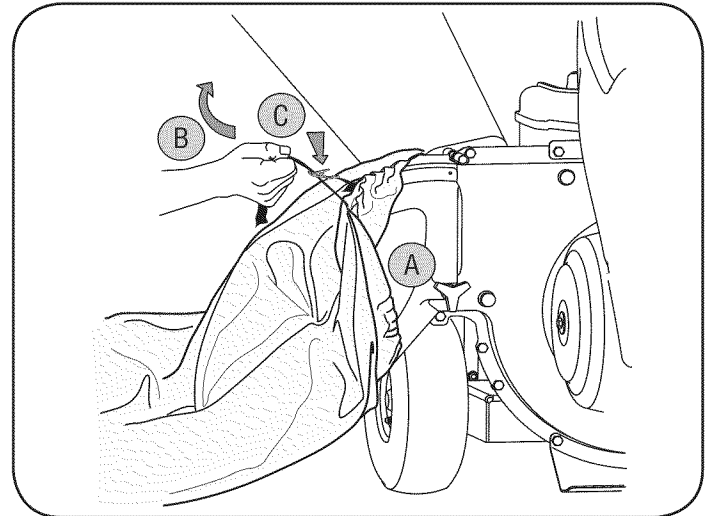

Figure 8
- C. Clip drawstring back on itself, tight against chute deflector to secure into position. See Figure 8.